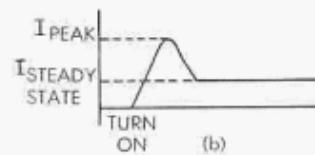

FIGURE 6-3.
6.6.2 As an example of the in-rush current measurement application: Suppose that a television set, which draws 1 ampere when operating, is to be checked for peak in-rush current to make certain that a replacement power switch is capable of handling the surge. Since the in-rush current is likely to be over two amperes, the limit of the 467 current measurement capability, a Simpson 153-2 AMP-CLAMP will be used. (Current range from 2 Amps to 200 Amps.) The set up required is shown in Figure 6.3 (a).